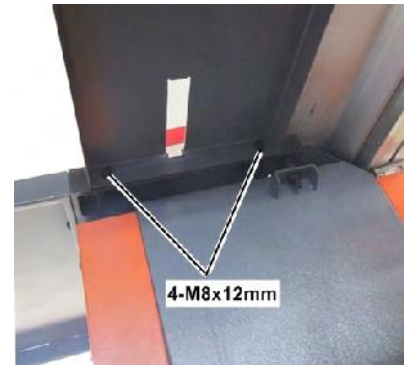

Fig. 6
d) rear worktable screw (Fig. 6)